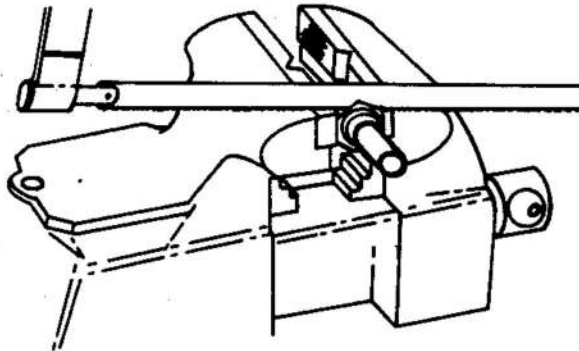

Fig.1 Removing the wired on nut
- (1) Place the nut in a vice, with the retaining wire hole at the top.
- (2) Using a fine tooth hacksaw (fig. 1), cut the nut down to the retaining wire and all the way round. The front section of the nut should now fall off.